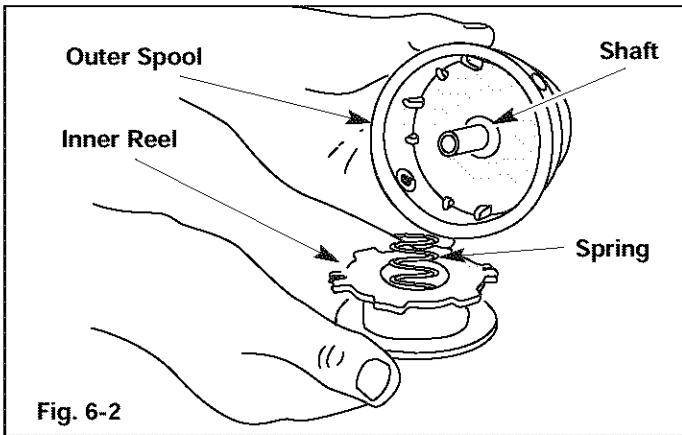

Fig. 6-2
2. Remove the inner reel from the outer spool (Fig. 6-2).
3. Remove spring from the inner reel (Fig. 6-2).
2. Remove the old inner reel from the outer spool (Fig. 6-2).
3. Remove the spring from the old inner reel (Fig. 6-2).